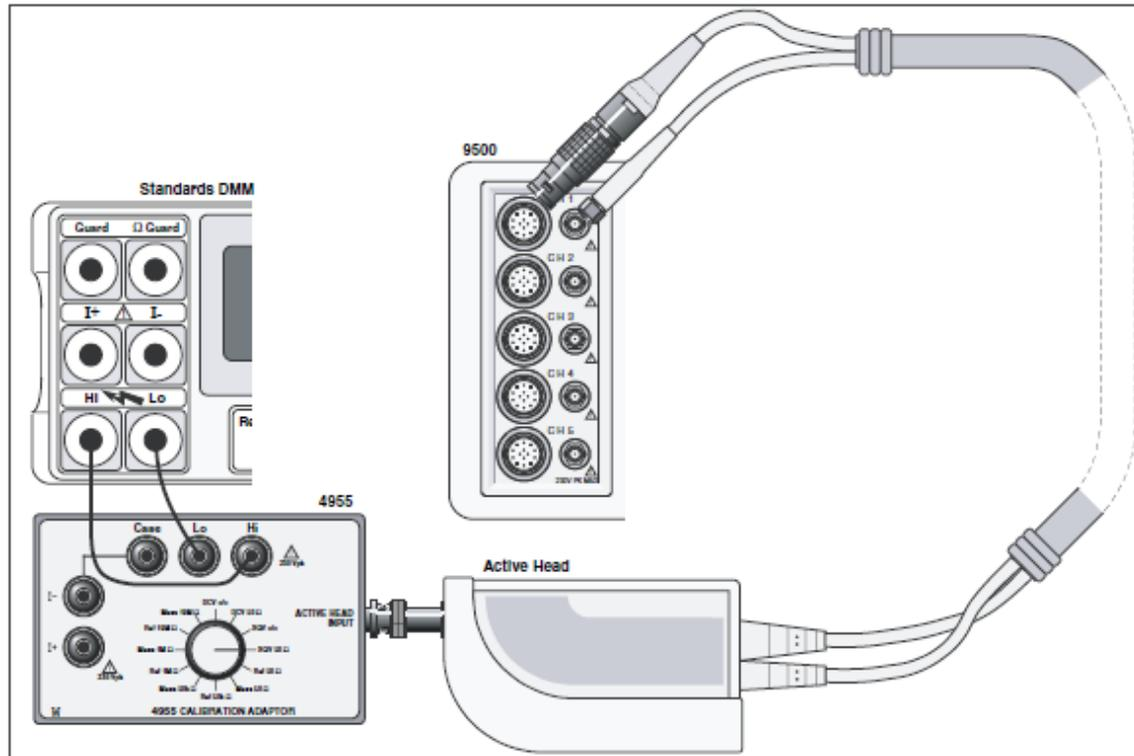

Figure 16. LF Sine Function Calibration — Interconnections
1. Connections: Ensure that the 9500B is connected to the Standards DMM as shown in Figure 16, or via a similar BNC-4 mm adaptor and 50 Ω load, and that both instruments are powered on and warmed up.